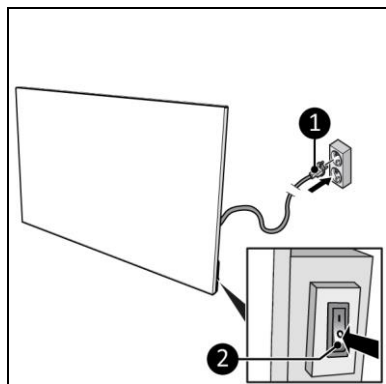

Figure 10
2. Make sure the ON/OFF switch is in the OFF position (Figure 10, pos. 2).
3. Place the power plug (Figure 10, pos. 1) into an earthed wall socket that is easily accessible. Use an earthed wall socket with a minimum power of 800 Watt.
1. Make sure the ON/OFF switch is in the OFF position (Figure 10, pos. 2).
2. Disconnect the power plug from the power outlet (Figure 10).